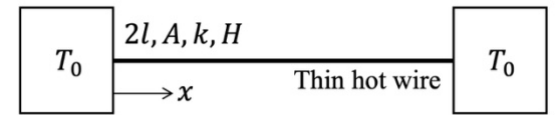

Fig. 2.1
A thin wire of length $2l$, cross-sectional area A , and thermal conductivity k is uniformly heated by volumetric heat generation H per unit volume and time. Both ends of the wire are in contact with the heat sinks and maintained at temperature T_0 as shown in Fig. 2.1. The thin wire is placed in a vacuum, where both convective and radiative heat transfer can be neglected.
(2) Does the average temperature of the hot wire increase or decrease compared to that in Question (1)?
(3) By solving the one-dimensional heat conduction equation in the x direction, $k \frac{d^2T}{dx^2} + H = 0$, obtain the temperature distribution $T(x)$ (where $0 \leq x \leq l$) in the left half of the hot wire. Then, determine the average temperature T'_{ave} of the hot wire.
(4) Determine the temperature gradient on the hot wire at the junction J and the amount of heat transfer \dot{Q}_s flowing into the thin wire sample by applying Fourier's law to the junction J on the hot wire. Note that the system is symmetric, and equal amounts of heat flow into the wire sample from both sides of the hot wire.
(5) Determine \dot{Q}_s in a different form from that in Question (4) by representing the amount of heat transfer using the thermal resistance of the thin wire sample.
(6) Let ΔT_{ave} be the difference between the average temperatures of the hot wires in Figs. 2.1 and 2.2; that is $\Delta T_{ave} = T_{ave} - T'_{ave}$. Determine an expression for the thermal conductivity k_s of the thin wire sample in terms of ΔT_{ave} and the physical quantities in the figures except T_J .